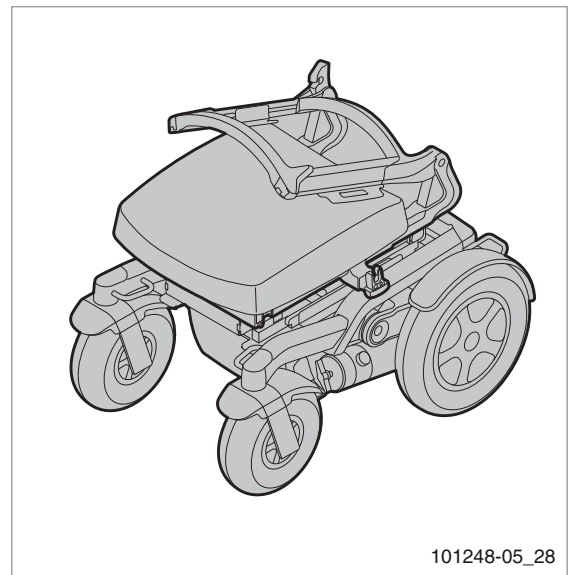

Figure 13
*Parts of the wheelchair that can easily be detached should be removed when transporting the wheelchair (figure 13) ( Seating system).*